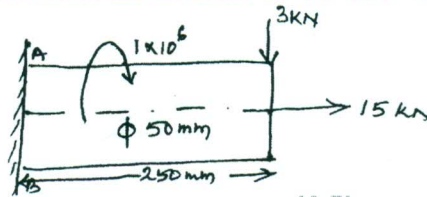

Fig.Q.1(a)
- 1 a. A shaft as shown in Fig.Q.1(a) is subjected to bending load of 3kN, torque of 1×10^6 N-mm and an axial force of 15kN. Calculate the stresses at 'A' and 'B'. (12 Marks)